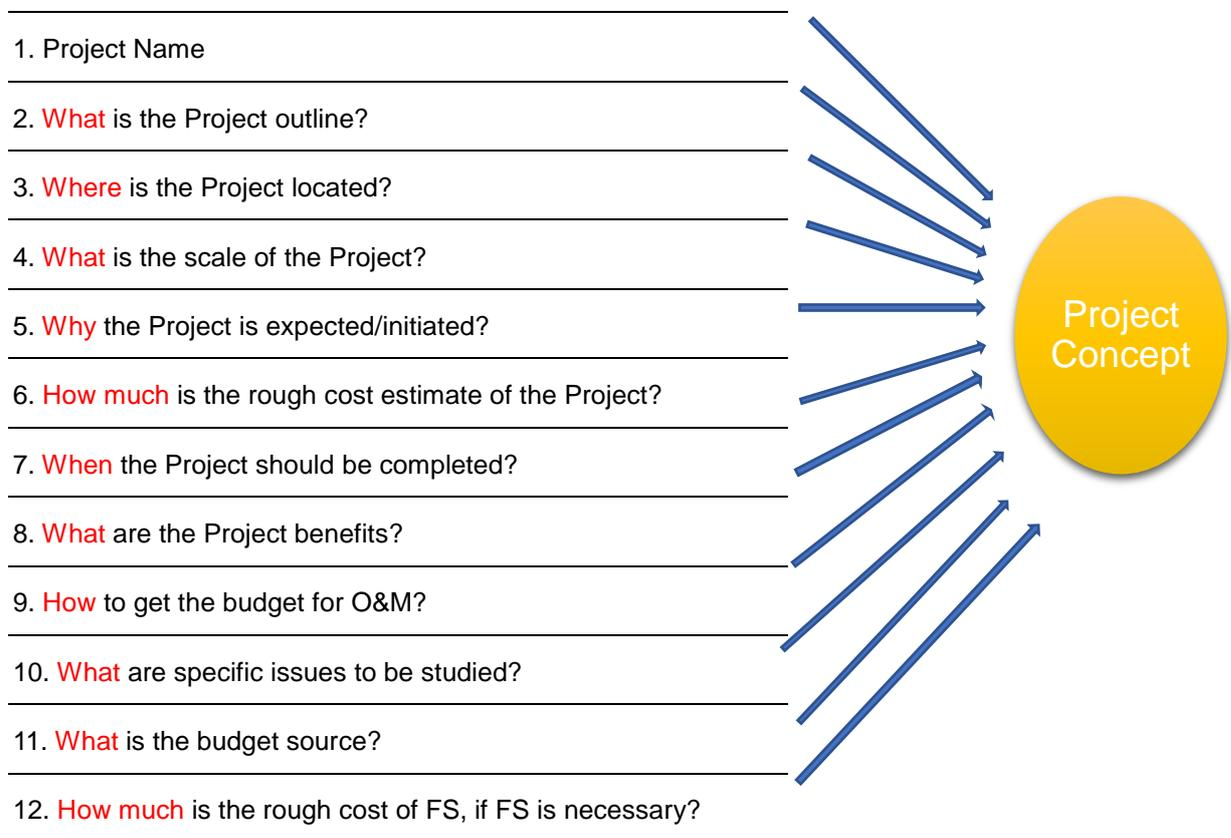

Figure 1-6: Element of “Project Concept”
- ✓ The Concept is **not just an idea**. It should have minimum principal elements, such as *What, Where, Why, When Who and How much* as shown in the Figure 1-6;